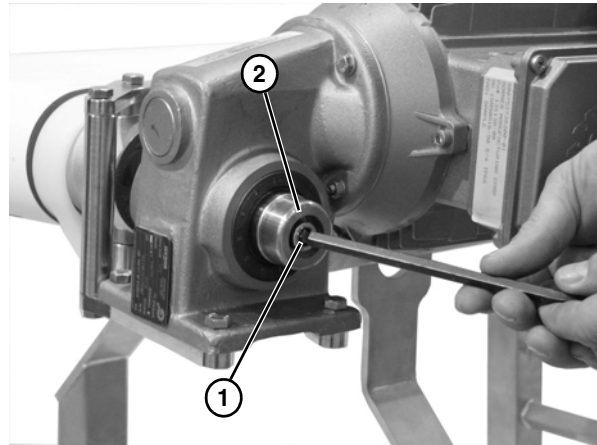

Figure 52
1. Remove the plastic cap on the end of the motor and remove the socket head screw (**Figure 52, item 1**) and the bore plug (**Figure 52, item 2**).